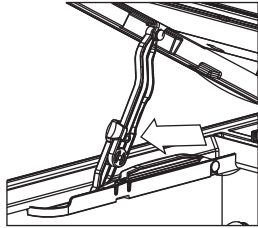

Figure 23: releasing the snap
16. To enable complete access to the filter compartment the hood can be further opened to an almost vertical position. To release the bottom leg of the hood support, from its normal position in the hood support channel, apply an outward pressure on the middle leg as shown in fig 23. While supporting the hood with one hand perform the same operation on the other side. Raise the hood almost to the vertical position.